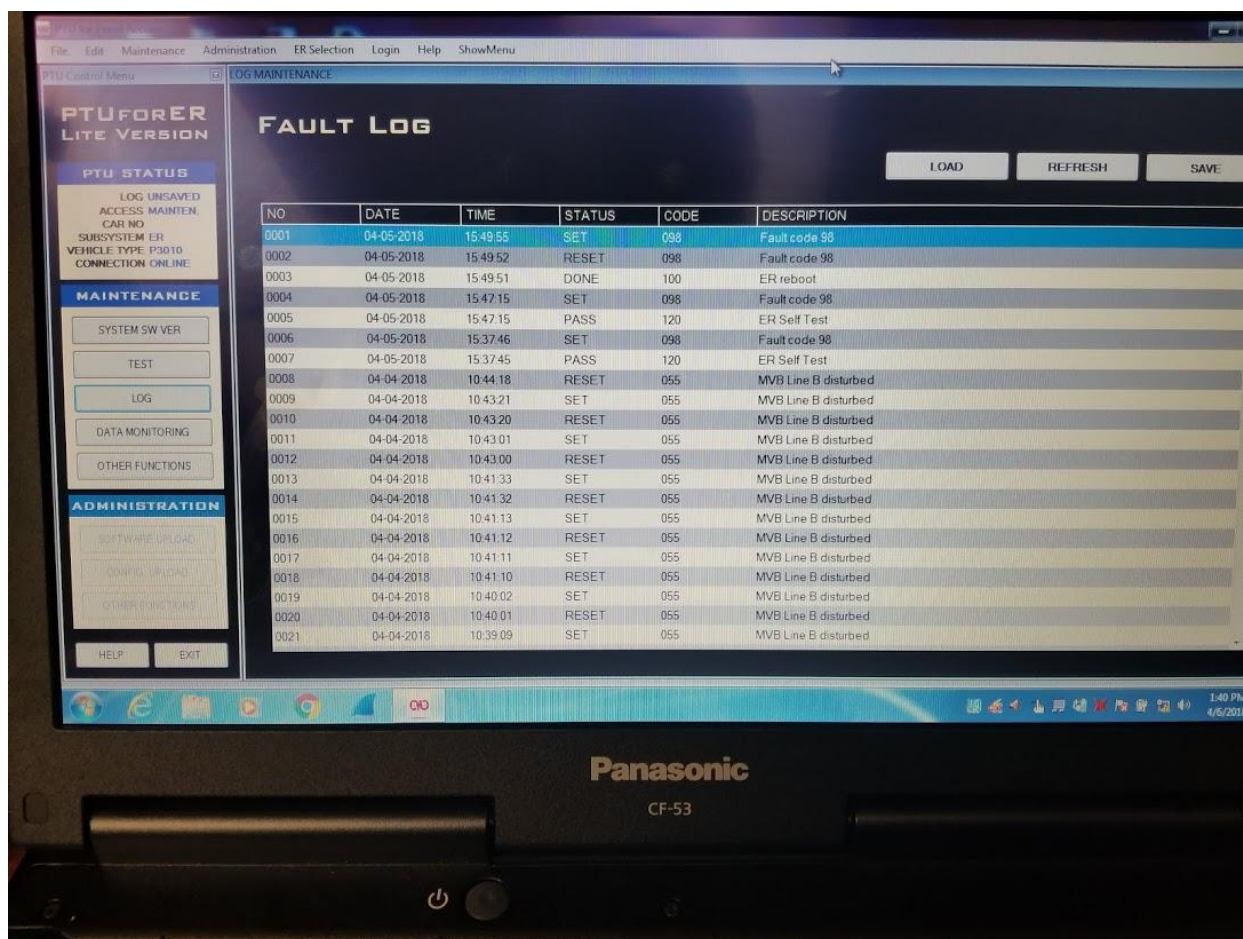

Figure 8-8: PTUforER-Lite Fault Log Screen
6. When you click the Log function it takes you to the screen shown in Figure 8-8 below.